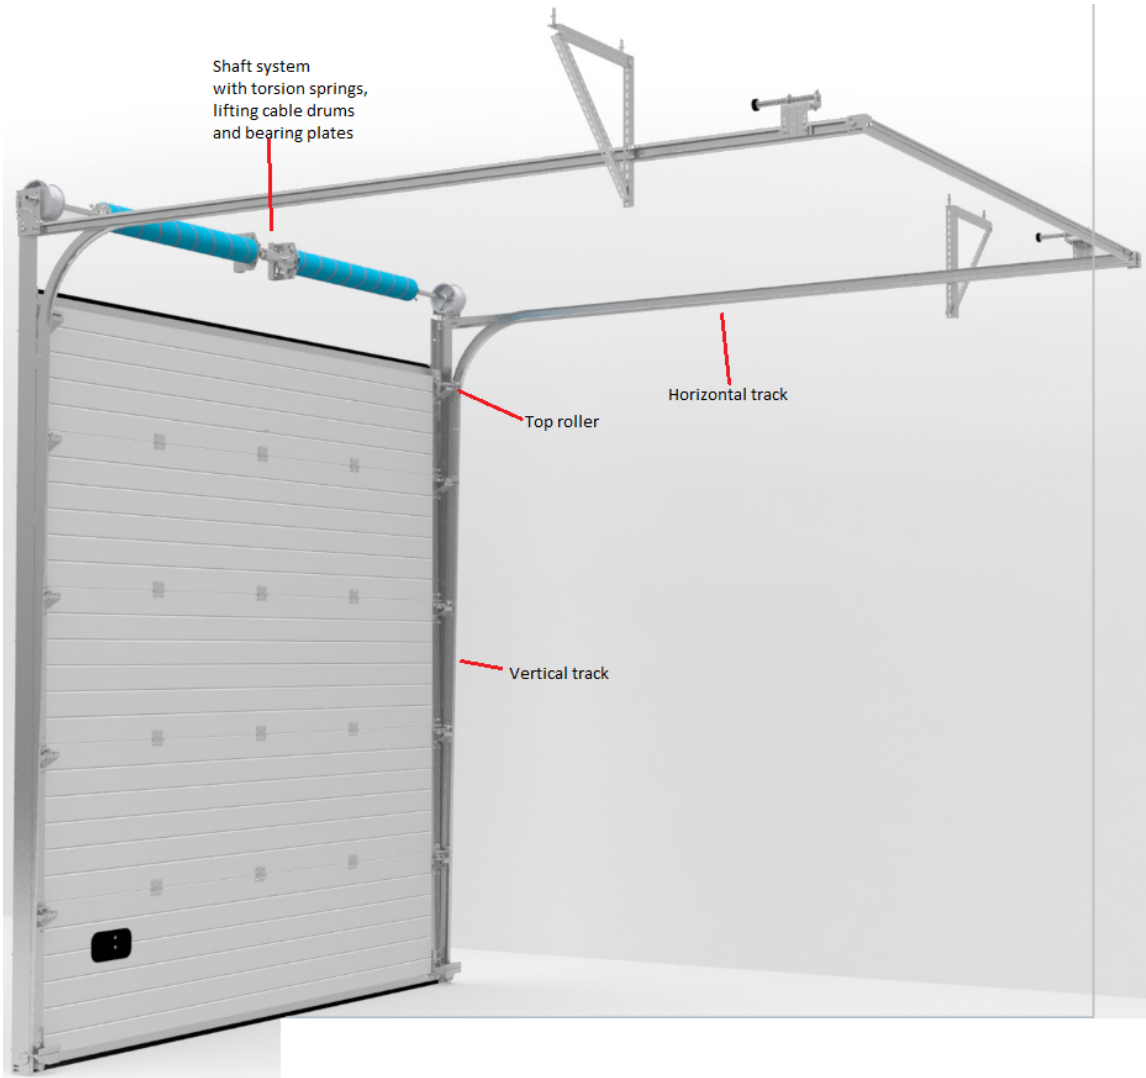

Figure 2: Normal lift sectional overhead door
normal lift (NL) doors have the shaft system located above the door opening. Top roller of the door is located in a 300mm radius bending that connects vertical and horizontal tracks see figure 2. The door slides ninety degrees from the surface of the opening. Head room is a very important measurement in sectional overhead doors. It is measured vertically from the top of the daylight opening to the lowest part of the roof or any obstacle above the daylight opening. This is the space where the shaft system is located on most types of